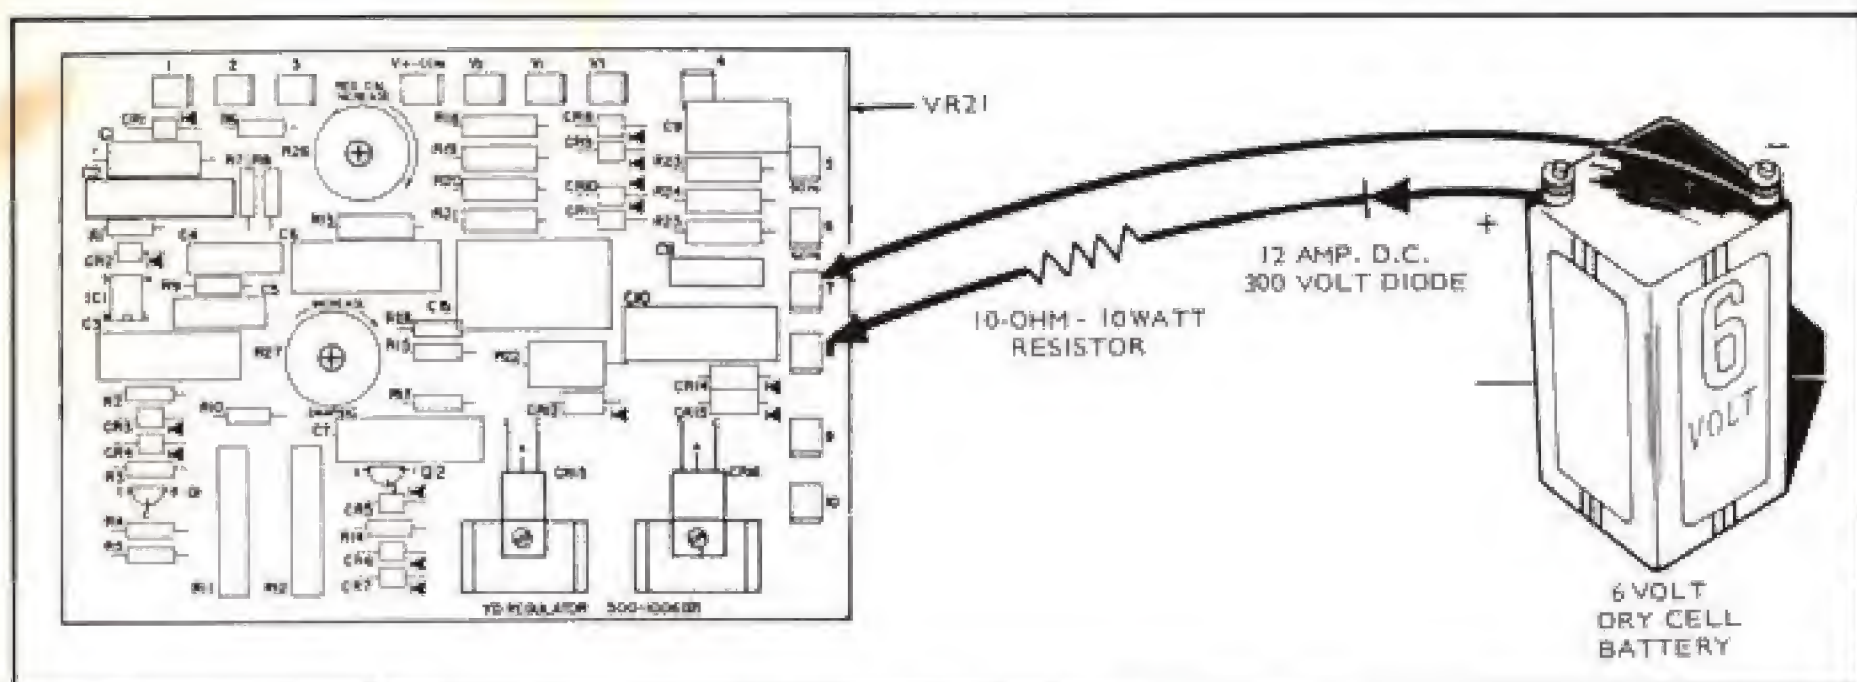

FIGURE 4-21. FLASHING THE FIELD
2. Use a six volt dry cell battery with two clip leads, a 12 amp DC, 300 volt diode, and a 10-ohm resistor as shown in Figure 4-21. If a six volt battery is not available, a 12 volt automotive battery can be used by increasing the 10-ohm resistance to 20-ohms; or a 24 volt automotive battery can be used by increasing the resistance to 40-ohms.